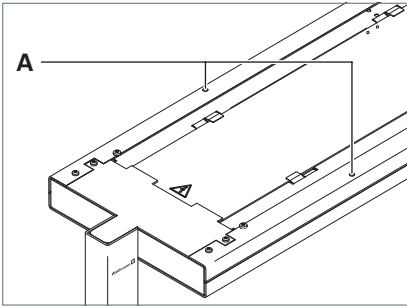

Fig. 24: Adjusting the light head
- ▶ To lift the light head, rotate the adjusting screws **A** counterclockwise, see Fig. 24.